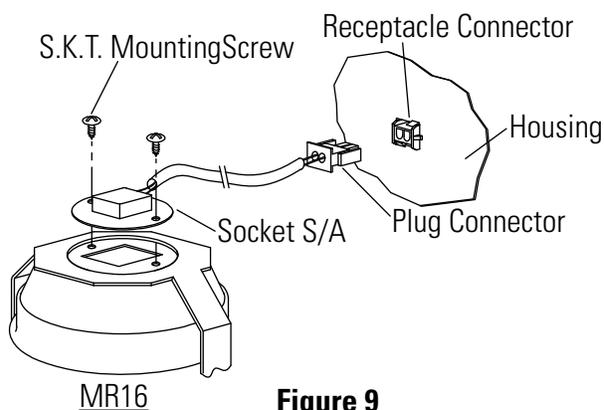

Figure 9
- c. Make sure connectors snap firmly into space. (Fig. 9)